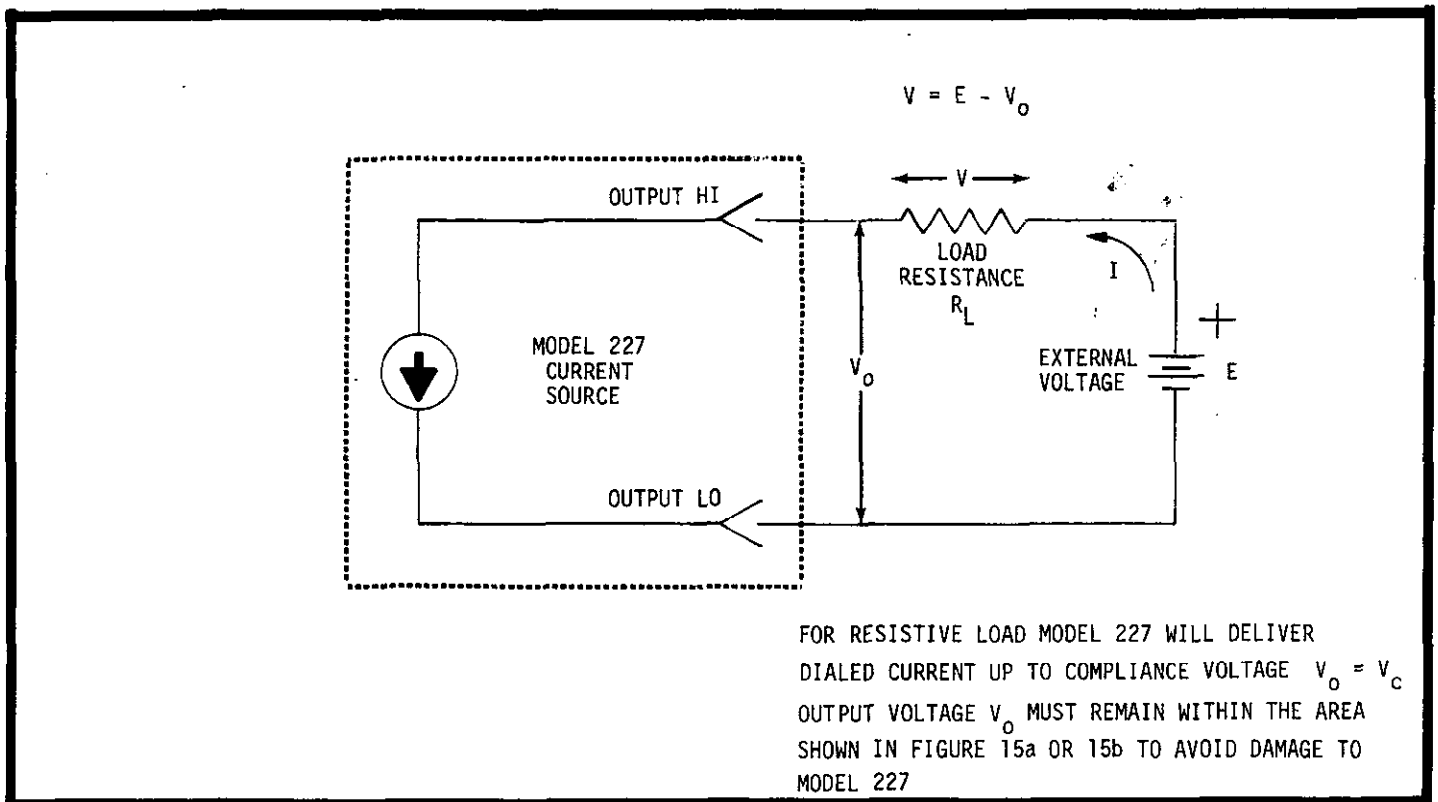

FIGURE 11. Connections as a Current Sink with Resistive Load.
2. Operation as a Current Sink. The Model 227 can be used as a current sink as shown in Figure 11. In this case, the current flow is into the Model 227. The output voltage  $V_o$  is a function of  $E$ ,  $I$ , and  $R_L$  where: